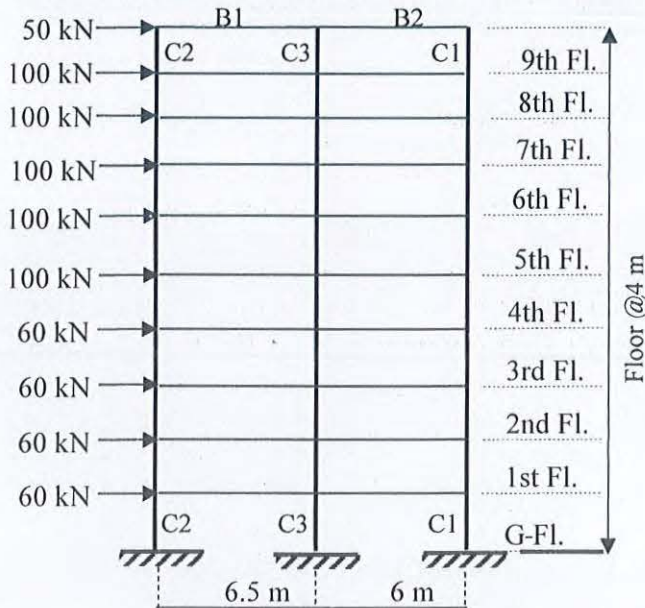

Figure 5: Frame of Medical Institute
- a. A frame of 10-storeyed medical institute is subjected to lateral (wind) load as shown in **Figure 5**. Analyze the structure for lateral load using portal method to obtain shear force and bending moment of **ground floor columns (C1, C2 and C3)**; shear force and bending moments of **roof floor beams (B1, B2)** using cantilever method. [Assume size of roof floor columns as C1: 500 mm x 500 mm; C2: 500 mm x 750 mm; C3: 500 mm x 1000 mm] [10 Marks]